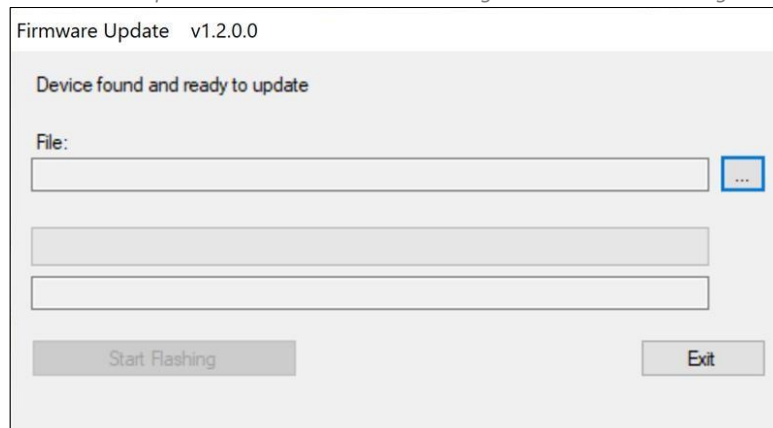

Figure 55 – Firmware update window.
9. Within LightBridge, select Firmware Upgrade from the *Tools* dropdown menu (Figure 54). The Firmware update window will appear (Figure 55).